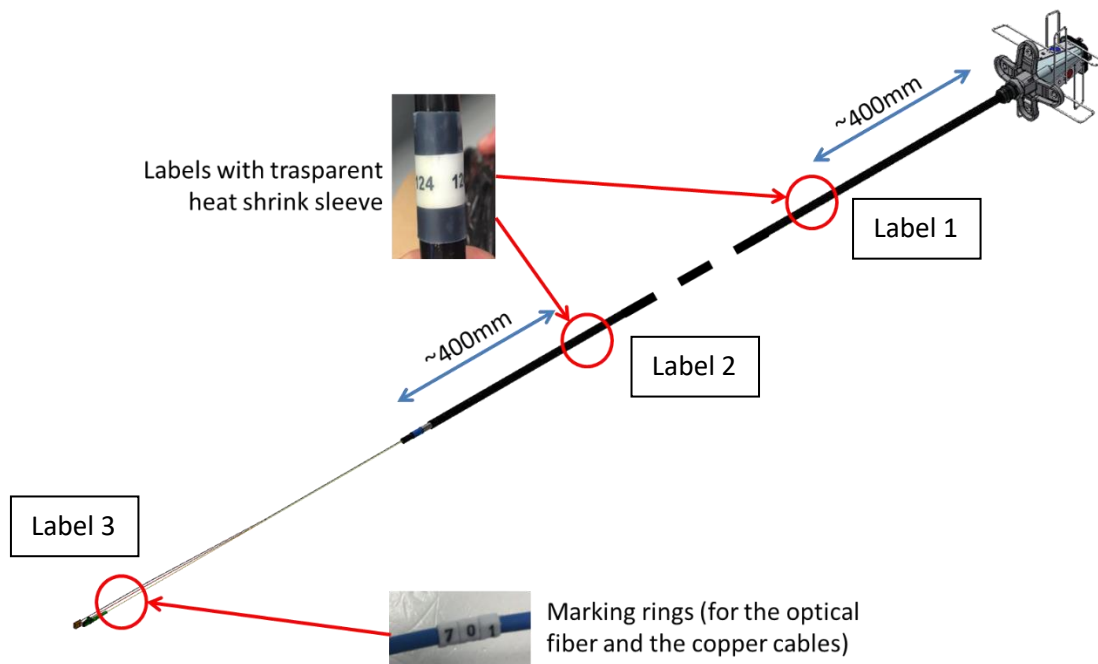
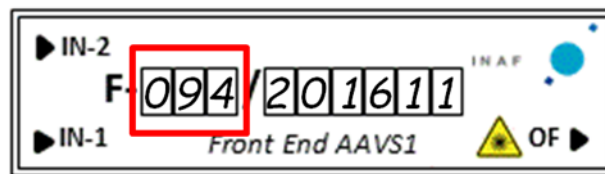

Figure 8: Hybrid cables label numbering.
Figure 9: FEM numbering.
13. Put the labels with the serial numbers, in the positions shown in Figure 8.
1. Labelling check: verification of the presence of the three labels on the HC showed in Figure 8 and matching the number with the FEM label (three digits in the red box in the Figure 9).